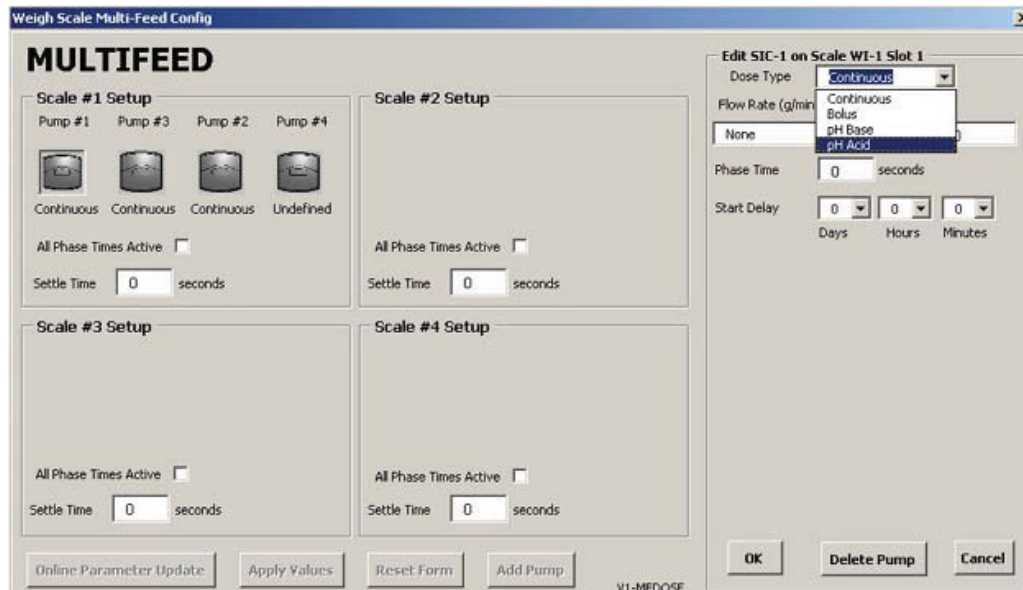

Figure 4.57. Selecting dose type.
3. Choose one of the four dose types: Continuous, Bolus, pH base, or pH acid (Figure 4.57). Click **OK**.